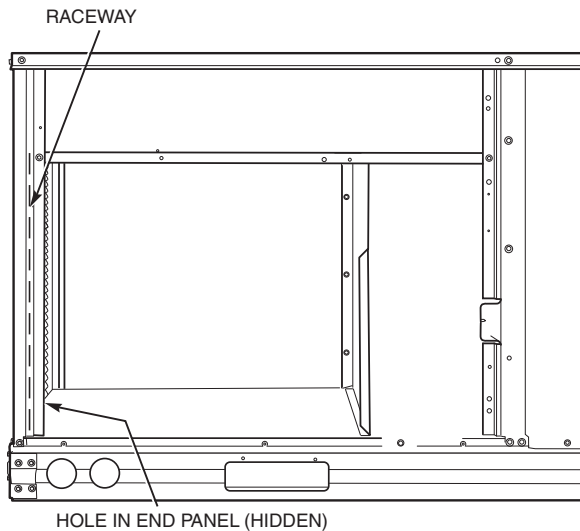

Fig. 44 — Field Control Wiring Raceway
Pass the thermostat control wires through the hole provided in the corner post; then feed the wires through the raceway built into the corner post (see Fig. 44) to the control box. Pull the wires over to the terminal strip on the upper-left corner of the Controls Connection Board.
2. Feed wires through the raceway built into the corner post (see Fig. 44) to the 24-v barrier located on the left side of the control box. The raceway provides the UL-required clearance between high-voltage and low-voltage wiring.